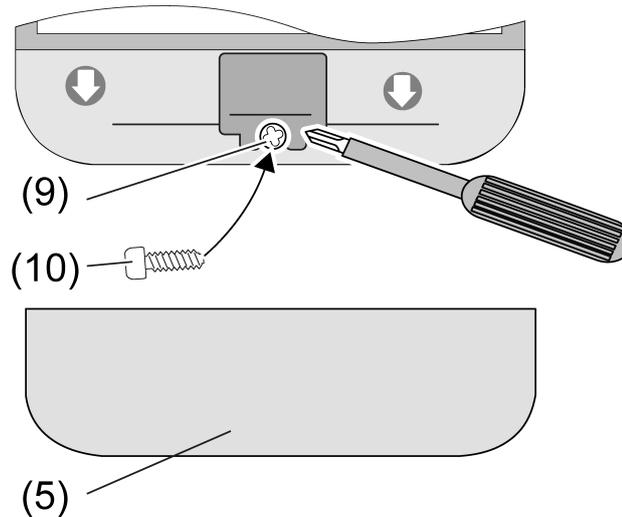

Figure 18
- Screw the locking screw (10) in the hole (9) of the slide switch (Figure 18).